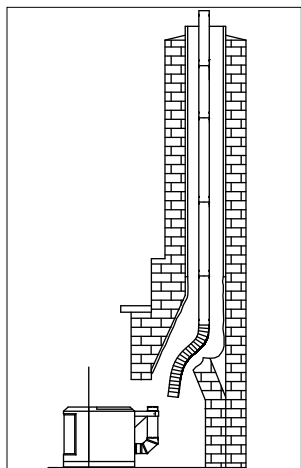

Figure 9
7. Repeat this process for the remainder of the pipe sections, and lower the assembly down the chimney as shown in **Figure 9**. Lower it below its normal position in order